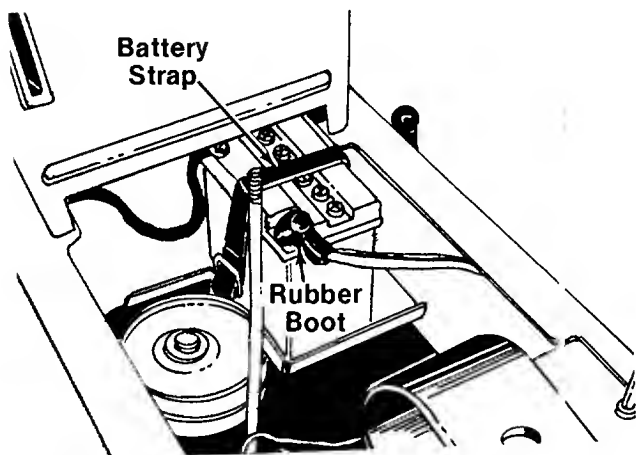

FIGURE 10.
9. Slide the battery forward into position as shown in figure 10. Secure in place with the battery strap, stretching strap over the battery and hooking into hole in the frame.
10. Slide rubber boot over the positive terminal. See figure 10.